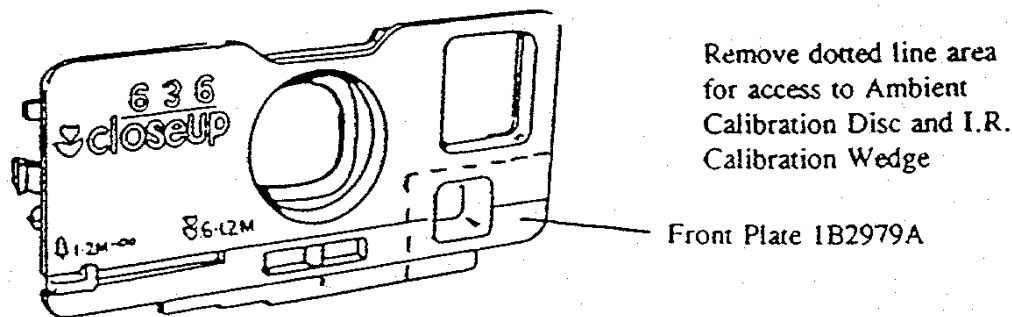

Fig. 10 Replacing Front Plate with modified Front Plate
- a. With the Camera off the Tester, remove the Front Plate/Lens Panel and replace it with a modified Front Plate as shown in Fig. 10. (See NPI 600AM #92-30 for more information.)